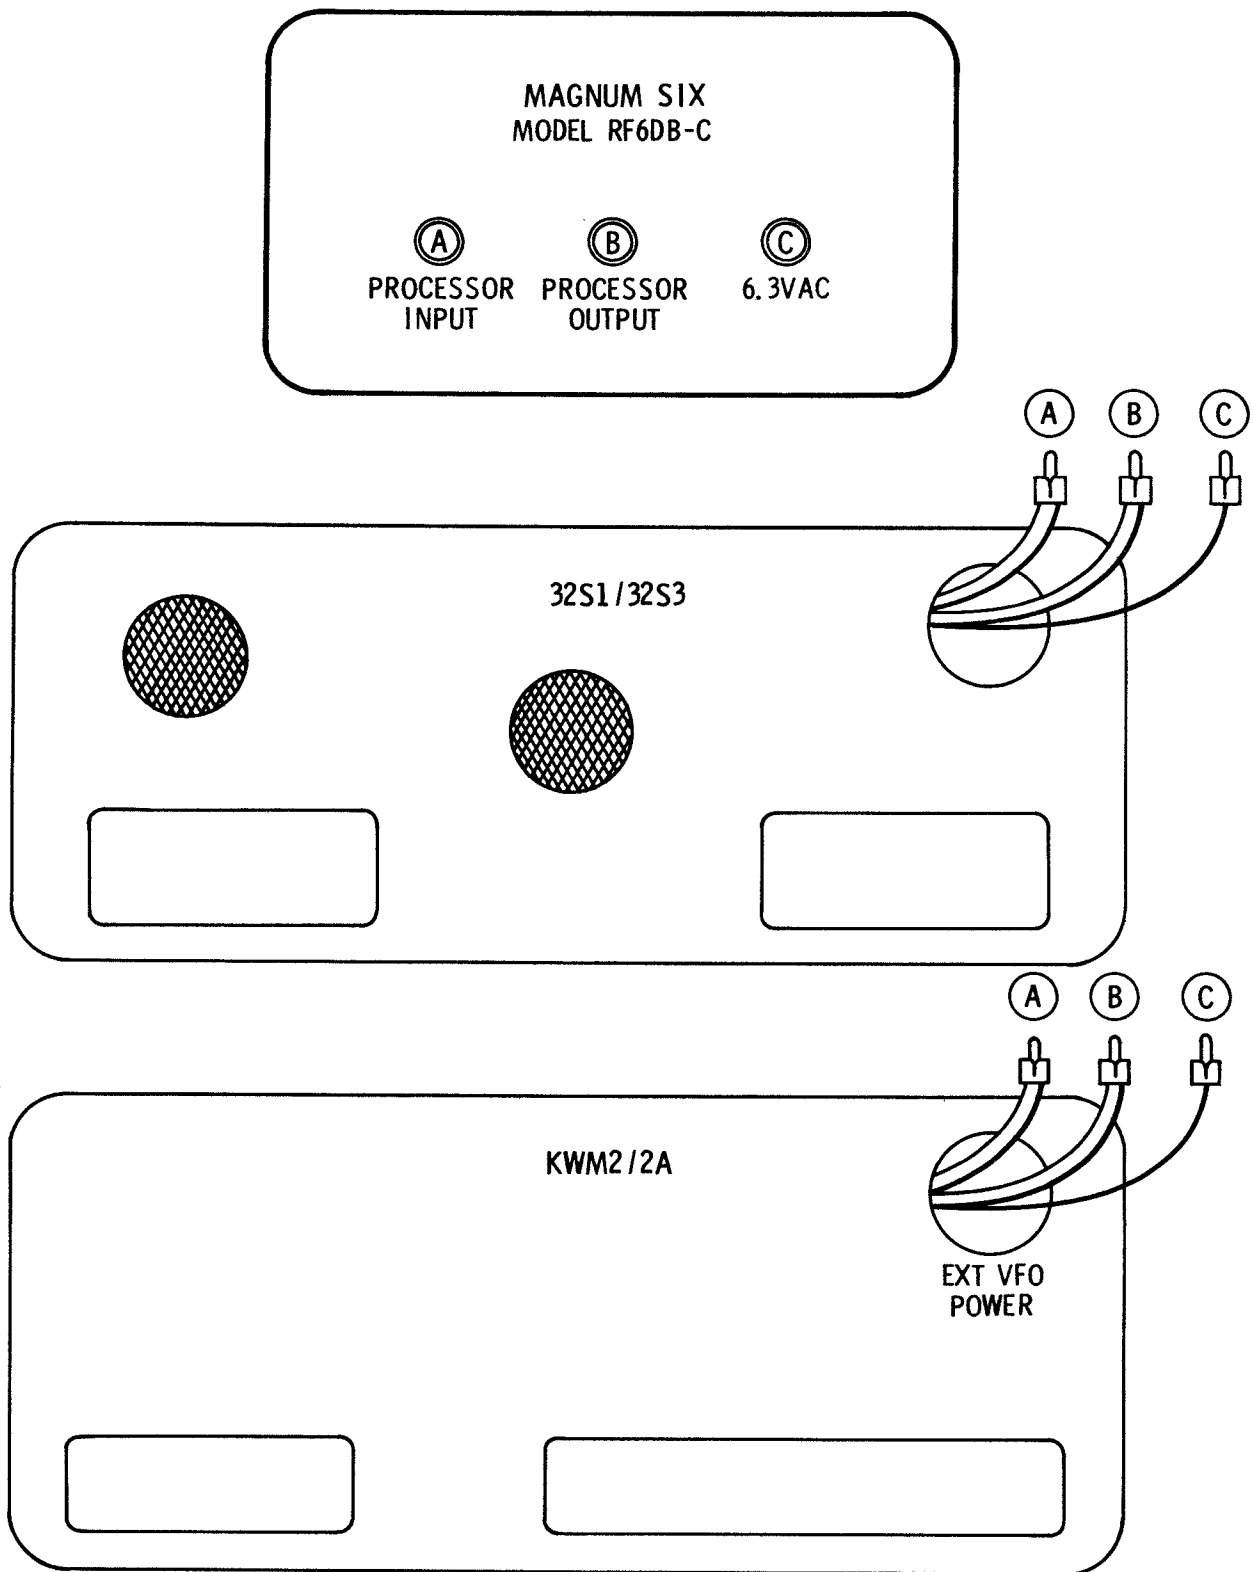

FIGURE 3.3-1 INSTALLATION PICTORIAL
- () Refer to Figure 3.3-1 of this manual. Select the installation pictorial that applies to your transmitter or transceiver.
Prior to the application of power to your equipment and the initiation of the following adjustment procedures, make sure that your MAGNUM SIX is properly connected to your transmitter or transceiver. See Figure 3.3-1. Special attention should be given to insure that the 6 volt power line and the coaxial cables between your equipment and the MAGNUM SIX are properly connected.